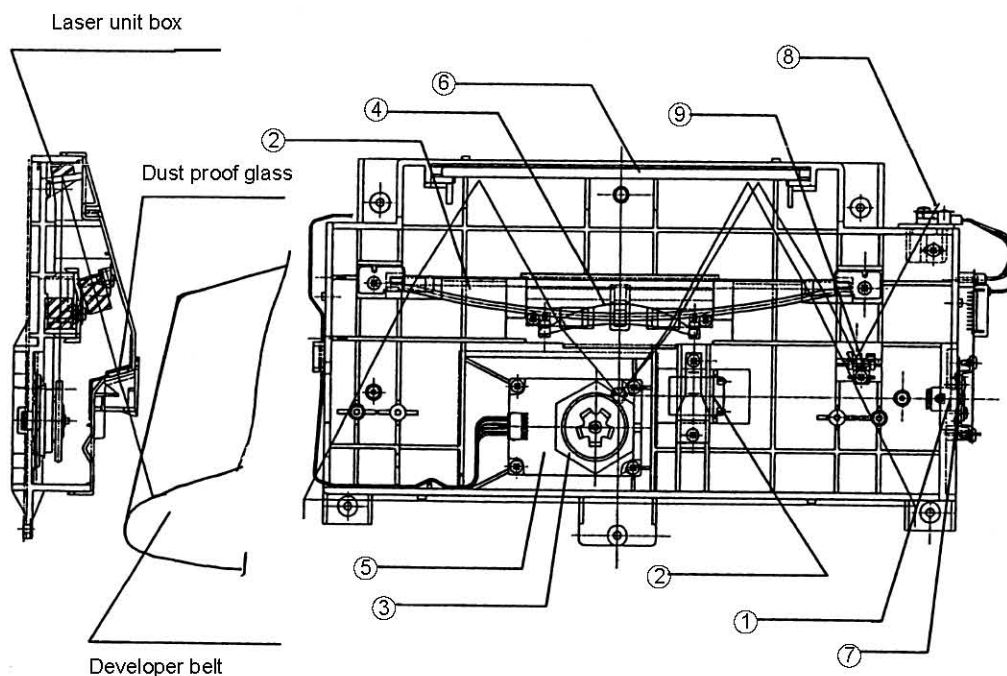

Fig. 4-24
### (1) Structure of the Scanning System (Refer to Fig. 4-24.)